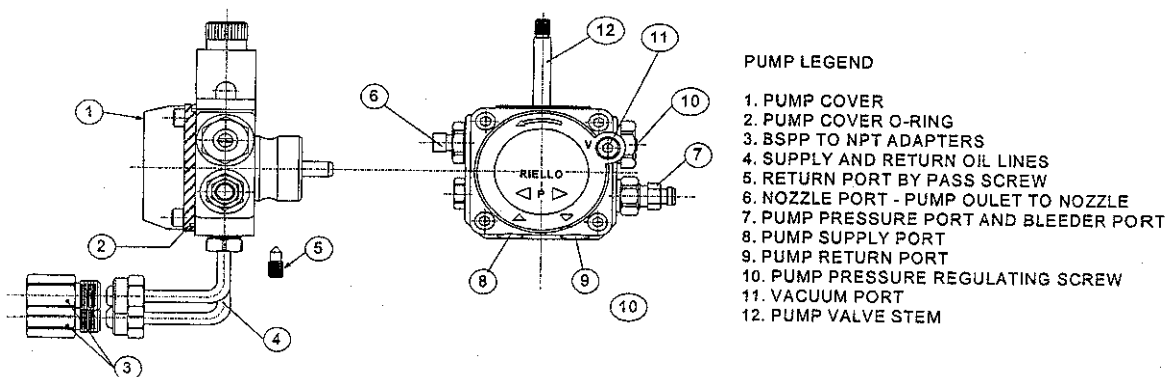

Figure 27: Pump Connections and Port Identification
7. **Pump Connections and Port Identification**, Refer to Figure 27.